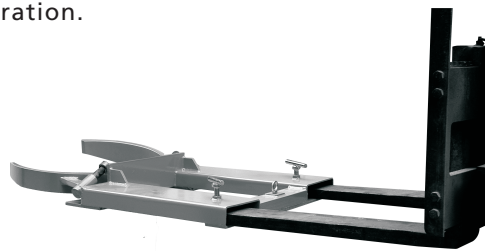

Figure 2
2. Slowly slide the forks into the fork pockets. Be sure to check "T" bolts (included except 21VG39) are unthreaded far enough as the forks enter the pockets. Drive forks in as far as possible. (Figure 2) Caution: Do not use fork extensions.